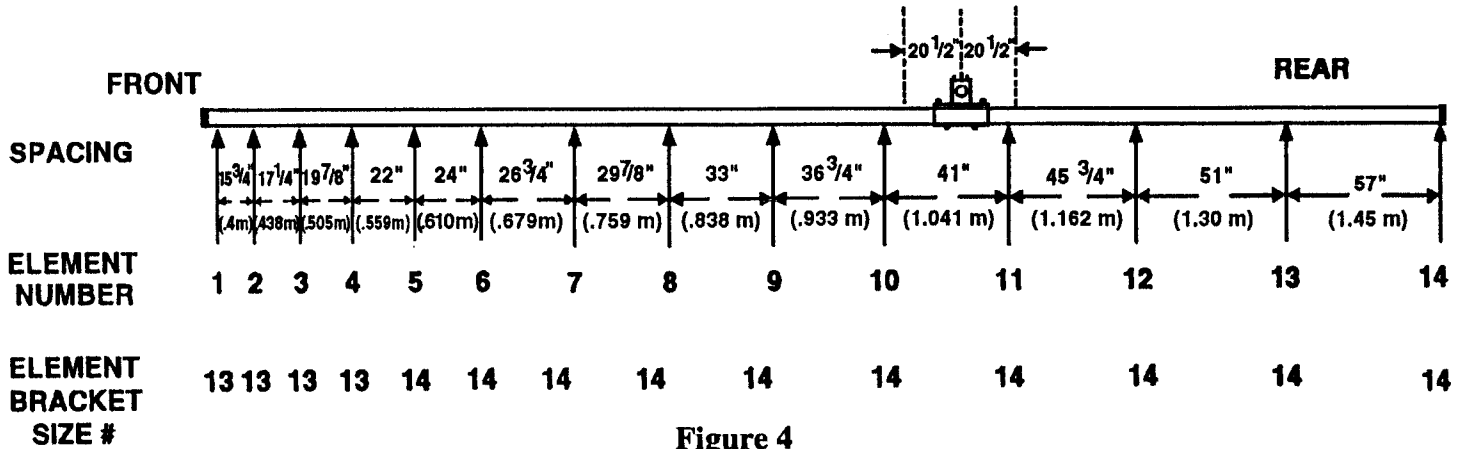

Figure 4
Assemble the brackets as shown in Figure 5 and locate them on the boom assembly as shown in Figure 4. It is easier to assemble the brackets on the boom at the correct location, rather than try to slide them on the boom. If you are going to leave this assembly unattended for more than 15 minutes, we suggest that you tighten the eight (8) bolts on each bracket, so that they do not vibrate off. Do not tighten the anchor bolt on the bottom of the brackets until the elements are
Starting with the longest element (#14), accurately measure the exposed tubing lengths as shown in Figure 9. Tighten the tubing clamp after each measurement. Repeat for the other element half. Double-check all the measurements before you proceed. You may want to mark each element half with its position in the antenna with an indelible marker. For example, mark each of the longest element halves with #14. The shortest set of element halves will be #1. The longer elements will use tubing with strengthening inserts. The inserts go towards the boom end of each element. Select the 7/8" and 1 1/4" element insulators, and 7/8" and 1 1/4" tubing clamps that the pigtails will attach to at a later time. See Figures 4 and 12. Install them on the large end of each element.